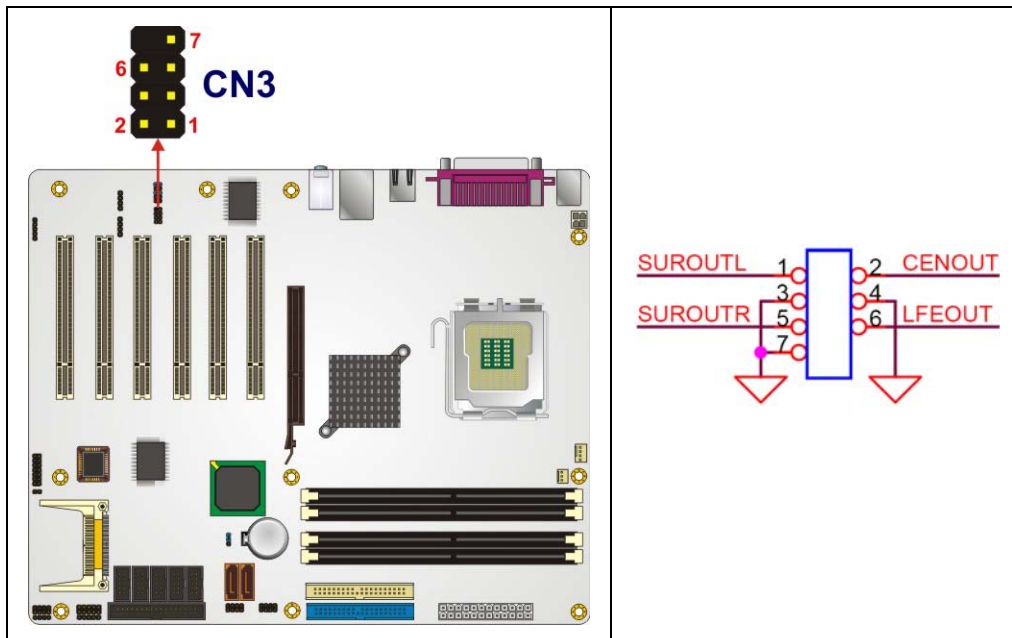

Figure 4-5: Audio Connector Location (8-pin)
- CN Location:** See Figure 4-5